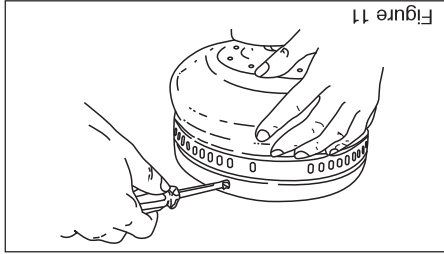

Figure 11
Step 3 Fix motor housing onto supporting bar by tightening four screws (Figure 11).